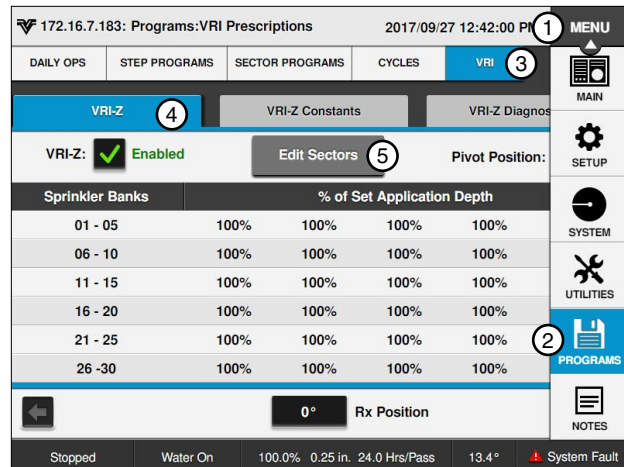

Figure 164-1 1. Menu 4. VRI-Z
1. Push **Menu**, **Programs**, **VRI**, and **VRI-Z** to display the VRI-Z screen. Refer to Figure 164-1.